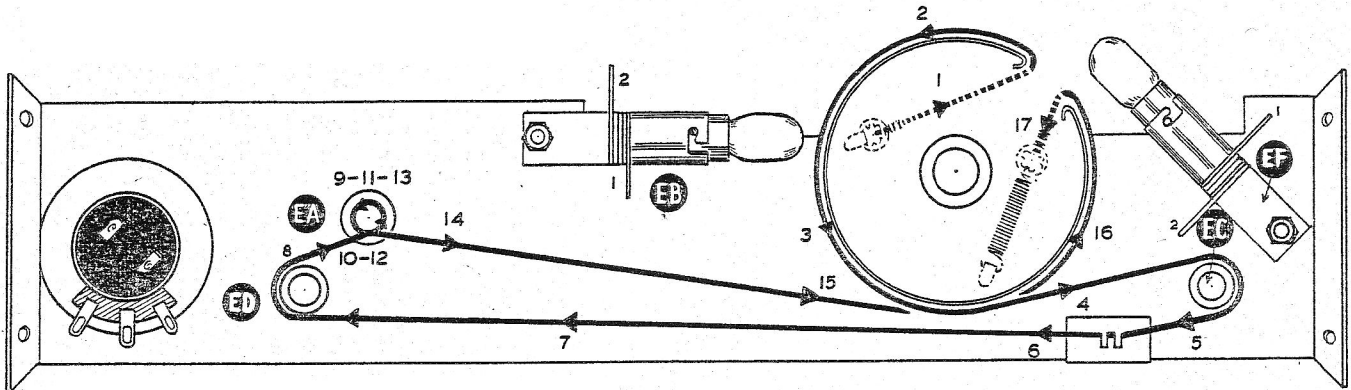

Figure 3
- () At one end of the twisted pair, connect one lead to rectifier socket A3 (S) and the other to A4 (S).
- () At the opposite end of the twisted pair, connect one lead to extra pilot lamp socket EF lug 1 (S) and the remaining lead to EF lug 2 (S). The lugs can be identified by reference to Figure 3. It is not necessary to mount the pilot lamp socket yet.
- () Hold the new dial plate (the long black painted metal part) close to the rest of the tuner and mount pilot lamp socket EF at the location shown in Figures 3 and 4, using the 6-32 screw, nut and lockwasher furnished. Orient socket EF as shown, making sure that it does not interfere with the action of the dial string pulley.